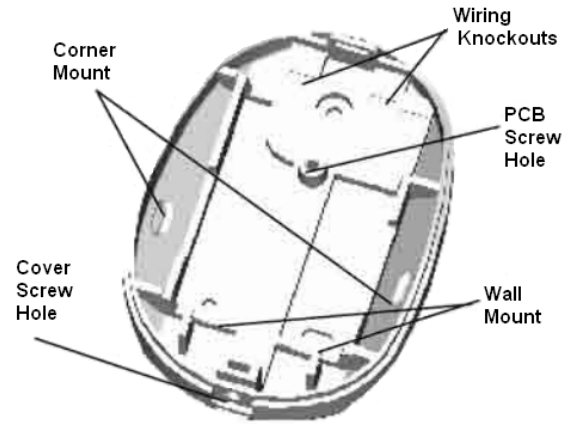

Figure 2: Detector Base
1. Using a screwdriver remove the cover screw at the bottom of the detector (see Figure 2) and separate the detector cover.
2. Using a screwdriver remove the PCB screw (see Figure 2) and lift the PCB out of the detector base.
3. Drill out the required mount and wiring holes in the base (see Figure 2).